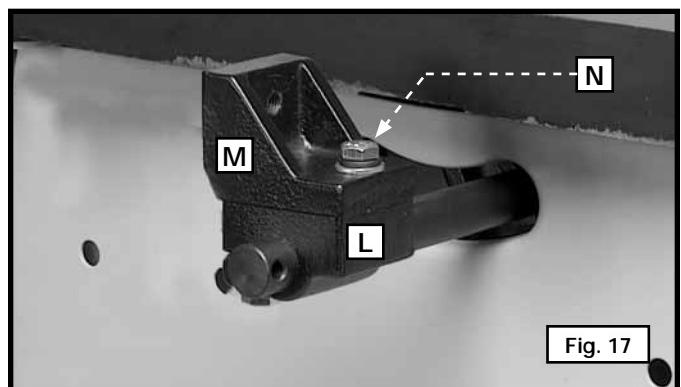

Fig. 17
9. Align the hole in the upper splitter bracket (M) Fig. 17 with the hole in the lower splitter bracket (L). Place a 5/16" lockwasher, then a 5/16" flat washer on a 5/16-18 x 1" hex-head screw (N). Insert the screw (N) through the hole in the upper splitter bracket (M) and thread the screw in the lower splitter bracket (L).